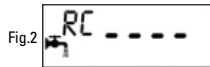

Fig.2
- Fig. 2: exhausted reserve, immediate or delayed start in regeneration depending on the adjustment.